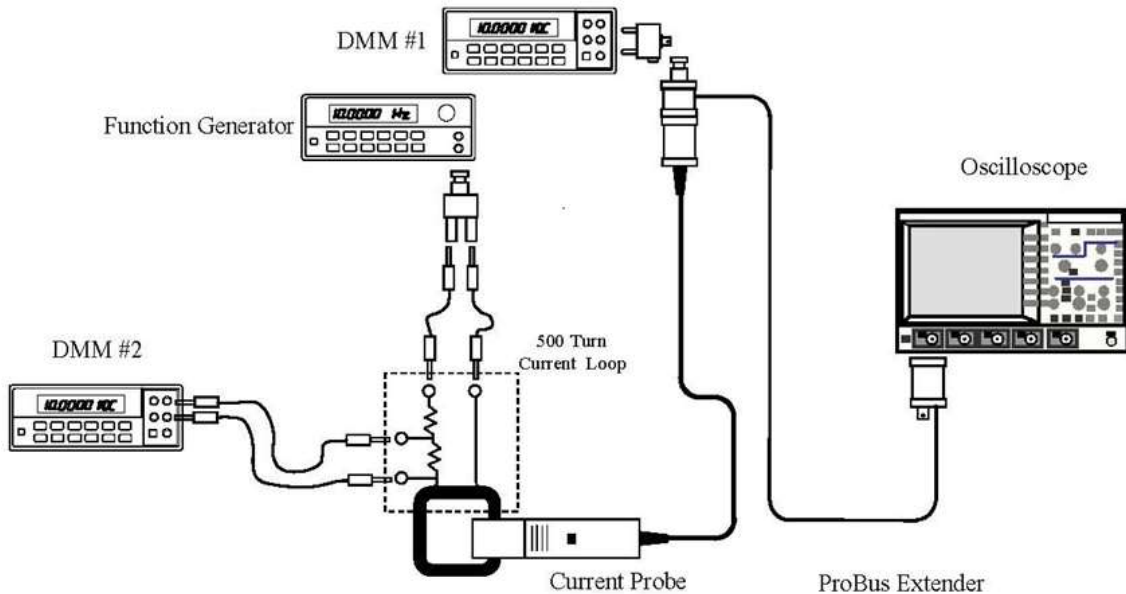

Figure 3. LF Accuracy Test set up.
2. Remove the CP500 from the oscilloscope and reconnect using the ProBus extension cable. Connect the BNC male connector of the ProBus extension to DMM #1 using a BNC Female to Dual Banana adapter (Figure 3).